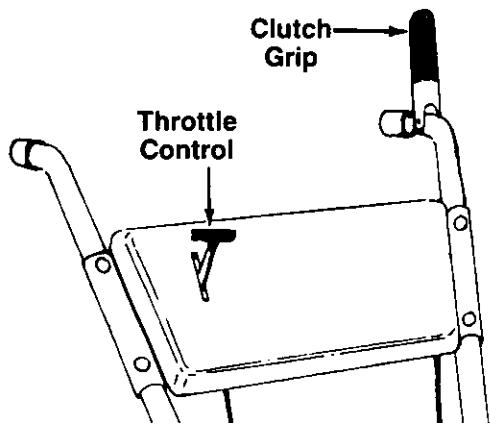

FIGURE 20.
- Move the throttle control lever forward to FAST position. See figure 20.
Move throttle control lever to STOP position. See figure 20.
To engage the tines, squeeze the clutch grip. To stop the tines, release the clutch grip. See figure 20.
- 4. Throttle Control:** The throttle control lever adjusts the engine speed and stops the engine. With the throttle control knob pushed completely forward, the carburetor is in START position. Pulling the throttle control back slightly adjusts the engine speed to FAST. Pulling the throttle back further reduces the engine speed to SLOW. Pull the throttle completely back to stop the engine. See figure 20.